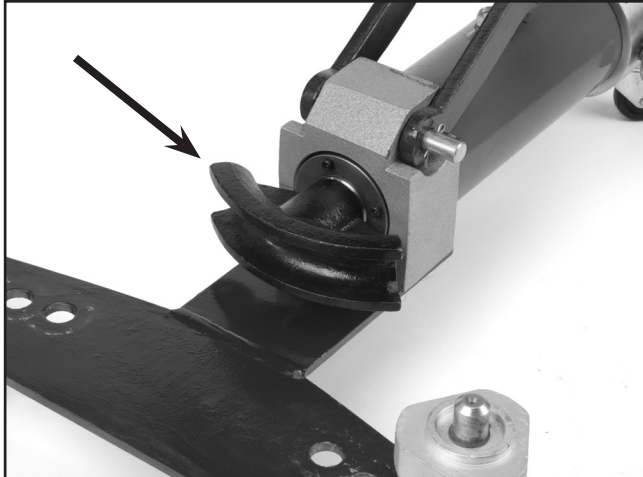

Figure 4. Die installed on cylinder ram.
1. Choose the proper size bending die and slip it on the end of the cylinder ram as shown in **Figure 4**.